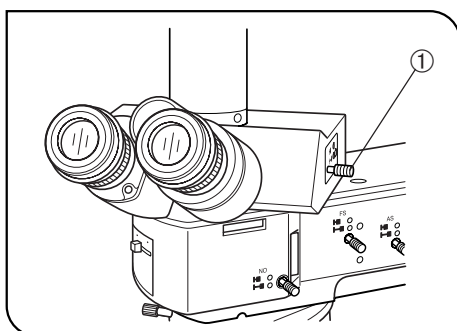

Fig. 13
**5 Selecting the Light Path of Trinocular Tube (Fig. 13)**